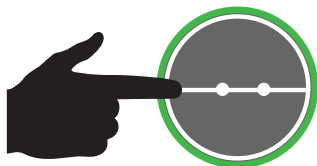

Figure 114. Main Circuit Breaker ON Button
8. Press the **Main Circuit Breaker ON** button (Figure 114).